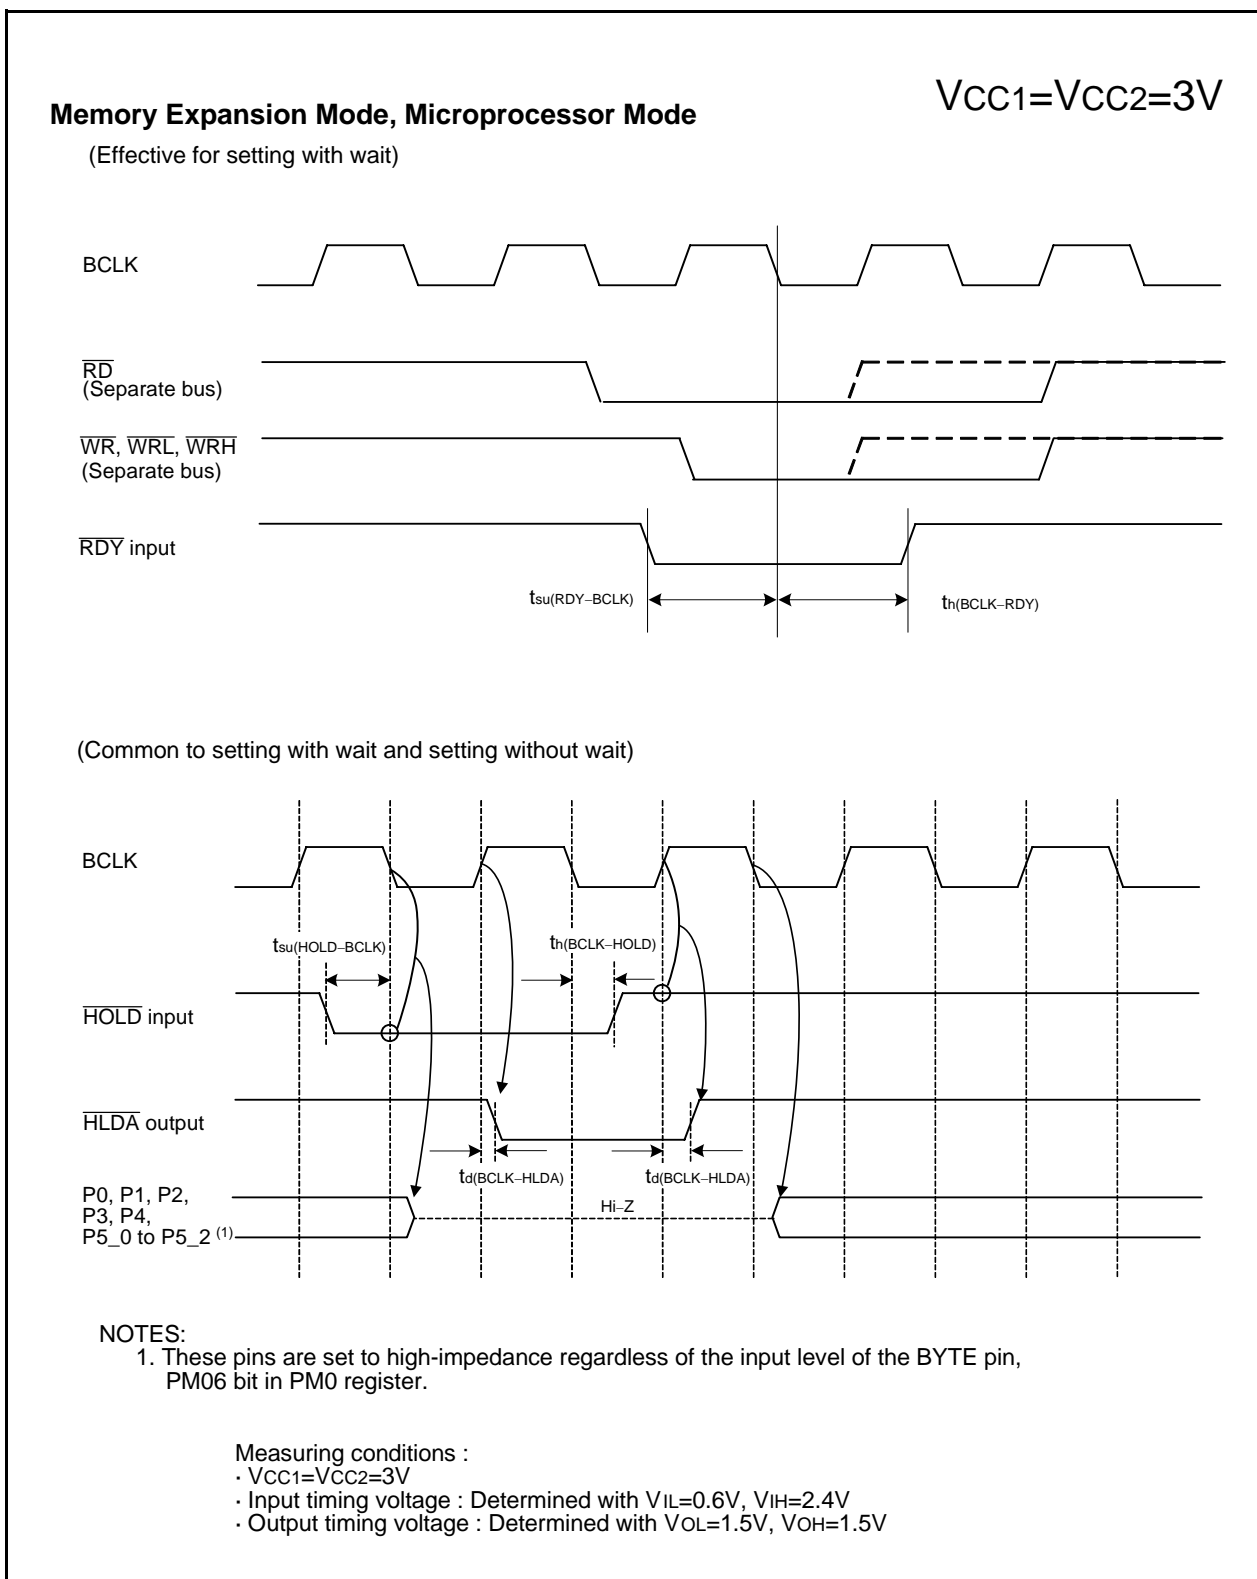

Figure 5.11 Timing Diagram (3)
43	Figure 5.11 Timing Diagram (3) is added.